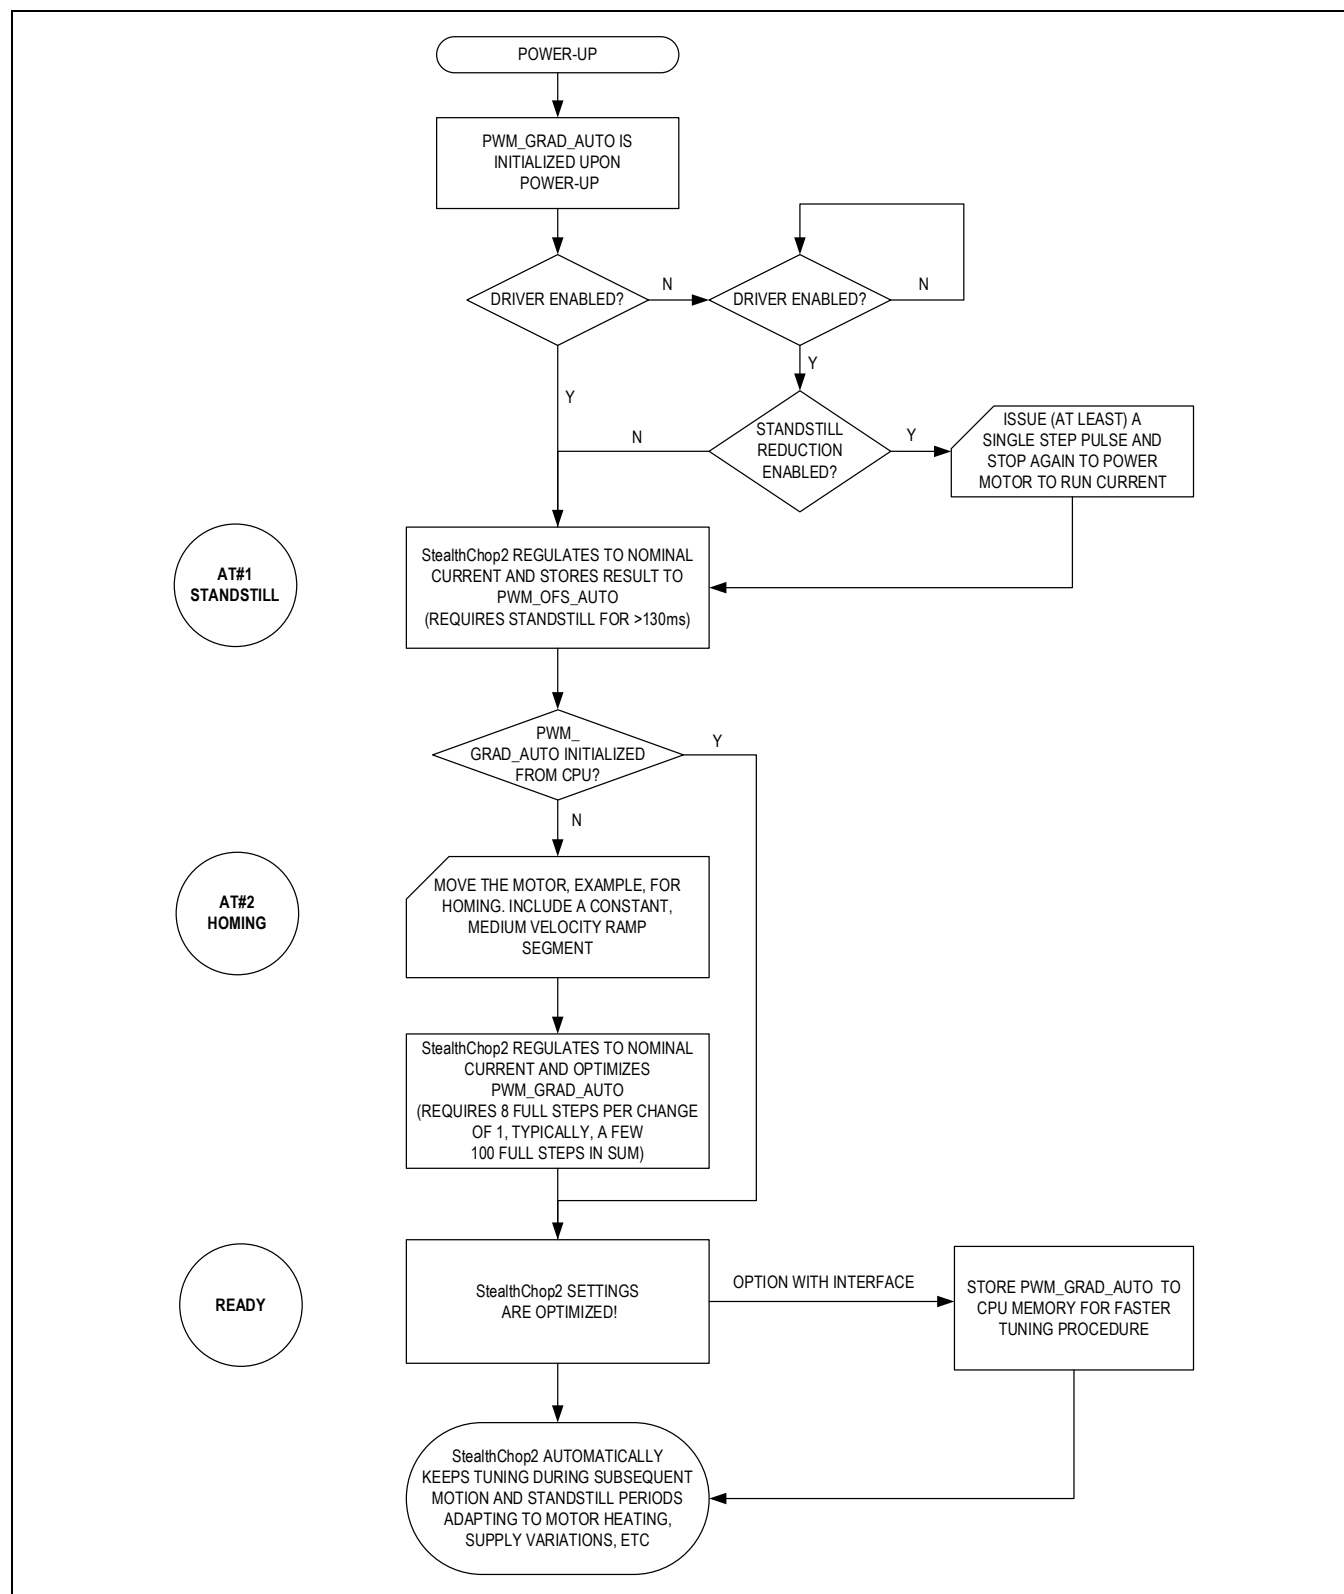

Figure 9. StealthChop2 Automatic Tuning Procedure
StealthChop2 integrates an automatic tuning (AT) procedure, which adapts the most important operating parameters to the motor automatically. This way, StealthChop2 allows high motor dynamics and supports powering down the motor to very low currents. Just two steps account for best results: start with the motor in standstill, but powered with nominal run current (AT#1). Move the motor at a medium velocity, for example, as part of a homing procedure (AT#2). The flowchart in Figure 9 shows the tuning procedure.